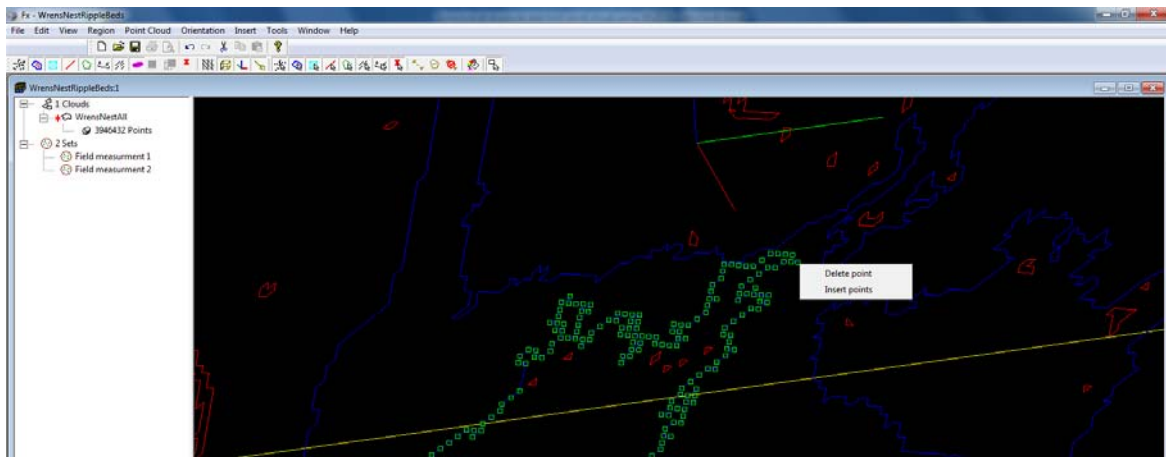

Figure 8 – Manually editing patches
- To see the patches plotted on a stereonet (i.e. the measured discontinuity plane) click 'Region' then chose 'StereoNet View'. A stereonet will appear in a new Region as in Figure 8.
- Entire patches can be deleted by selecting the patch in the 3D region with the mouse mode activated. When selected patch will become highlighted (Figure 8). Hover over a node and right click to delete or insert points (nodes).